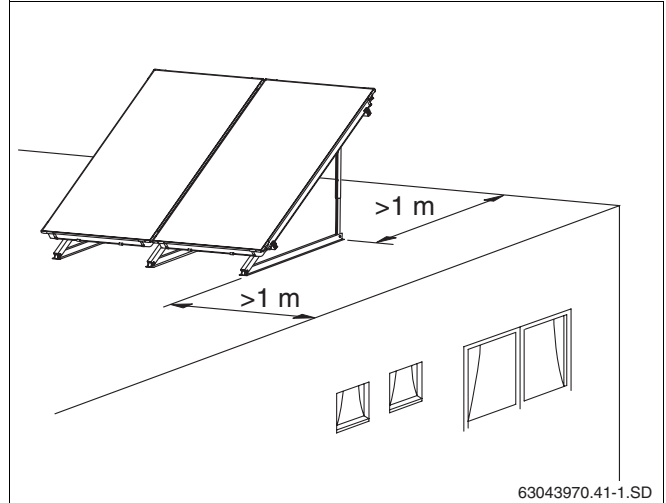

Fig. 15 Distance from the edge of the roof
- Before commencing the installation, ensure that at least one metre is allowed between the flat roof supports and the edge of the roof (Fig. 15).